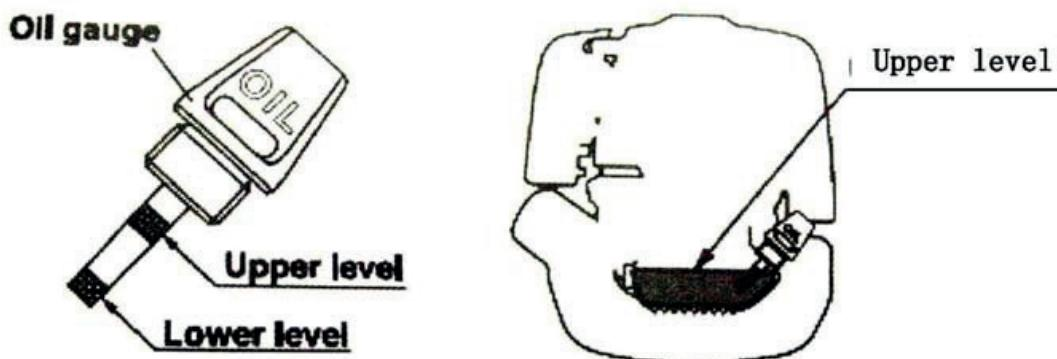

Figure 3
(2) Start
- (b) Adding engine oil. See Figure 3